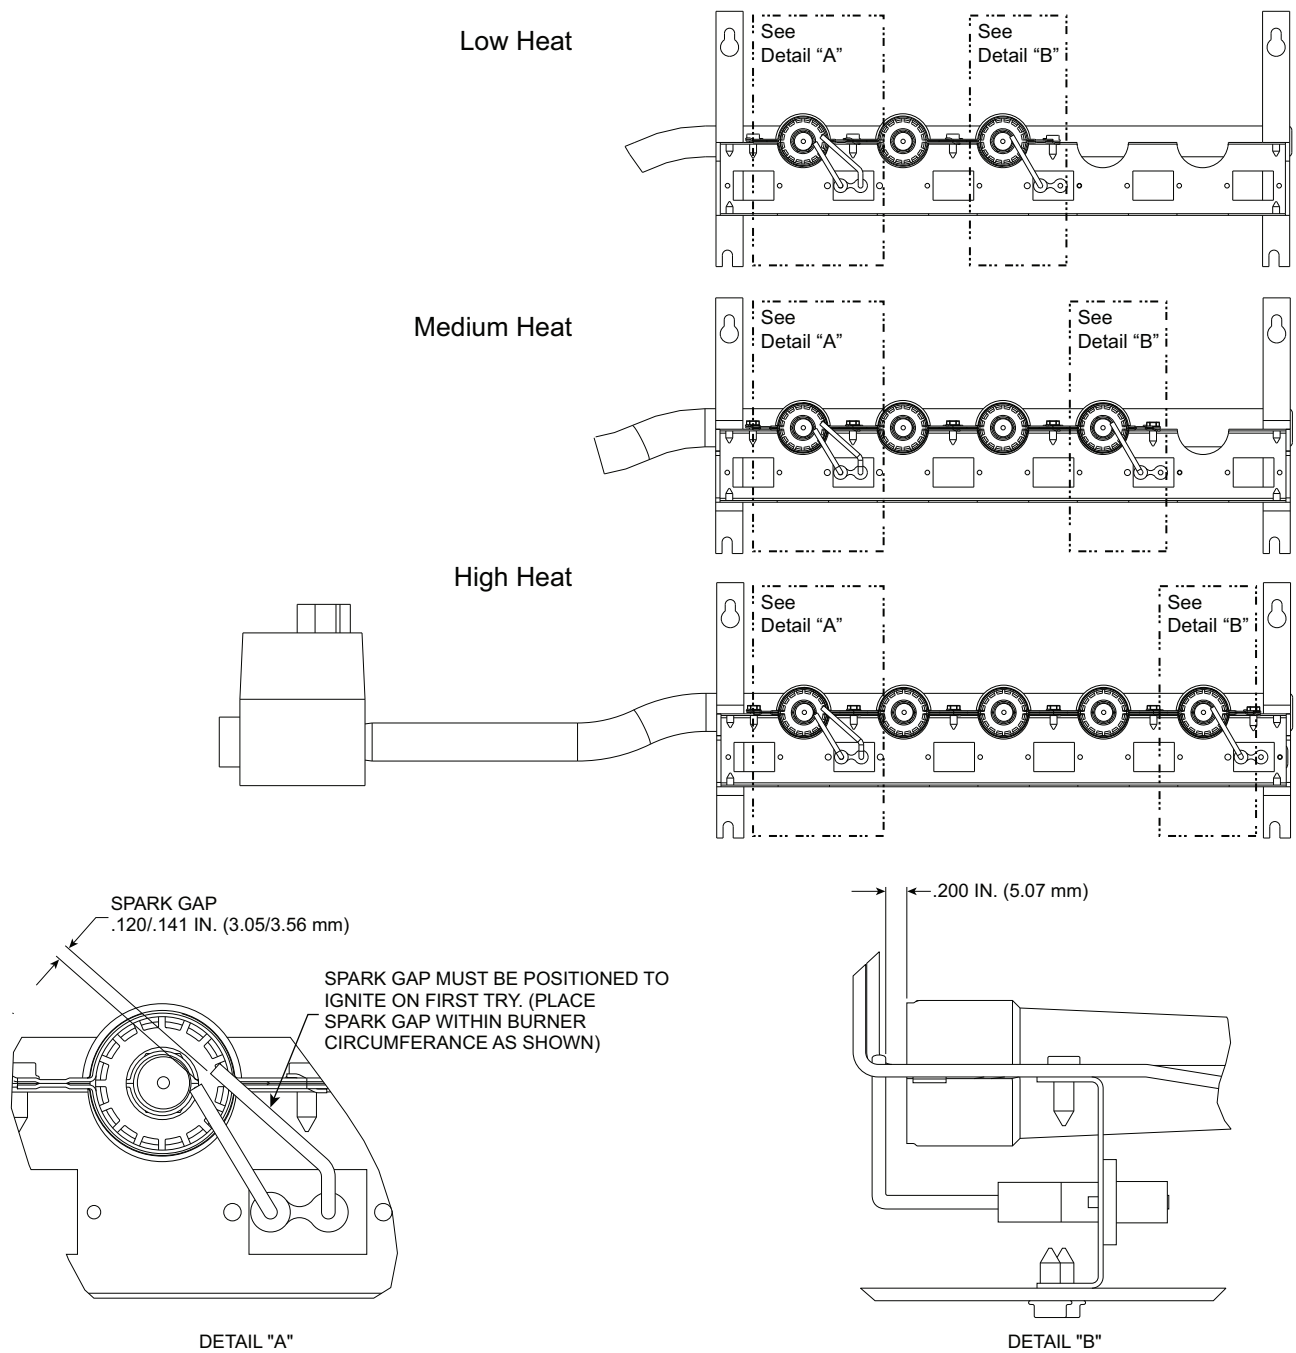

Fig. 60 — Spark Adjustment
4. Adjust spark gap. (See Fig. 60.)